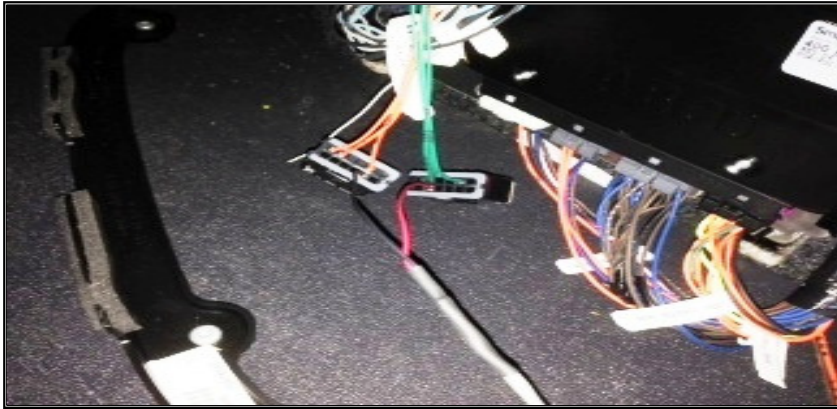

Figure 4
6. Route J1708 wires to connector block below dash panel, adjacent to J1939 Terminating Resistor, shown in "Figure 4".